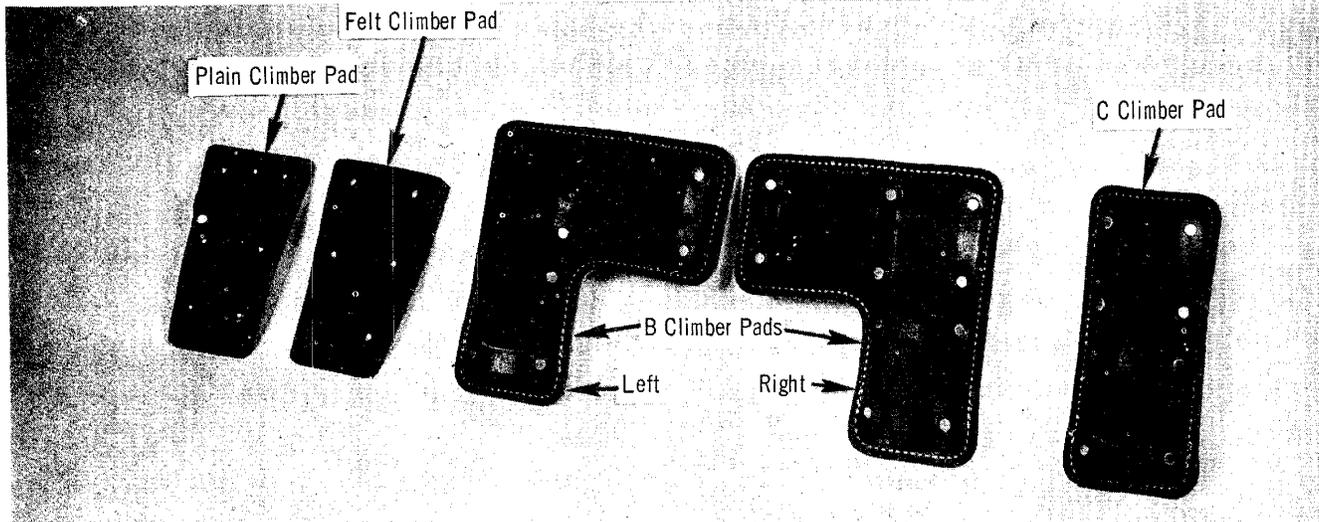

Fig. 4 – Pads
2.04 Plain, felt lined and cushion pads, Fig. 4, are available for use with climbers. Cushion pads are coded B Climber Pads (angle) and C Climber Pads (straight). Plain and felt lined